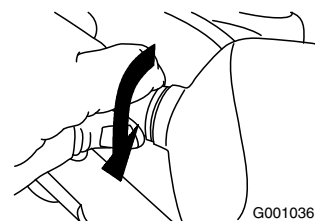

Figure 56
5. Turn the base of the bulb clockwise until it is snug (Figure 56).